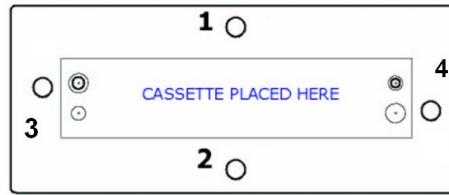

FIGURE 3
9. Using the calibrated torque wrench with a deep style socket, tighten each hex nut ¼ turn following the torque sequence illustrated in Figure 3 for four-bolt hardware. In ¼ turn increments, tighten the first, second, third, and fourth nut alternating back and forth until the torque wrench "clicks". Repeat this sequence until the wrench "clicks" without turning the nut. The "click" of the torque wrench indicates that the nut has reached the set point torque value.